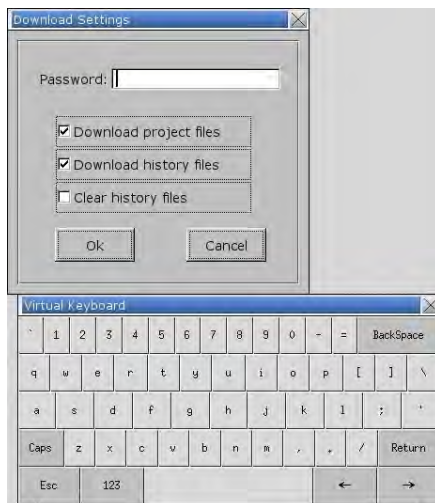

Figure E.9: Keypad Pop-Up
3. In a few seconds the menu in Figure E.9 will pop-up. Choose Download.